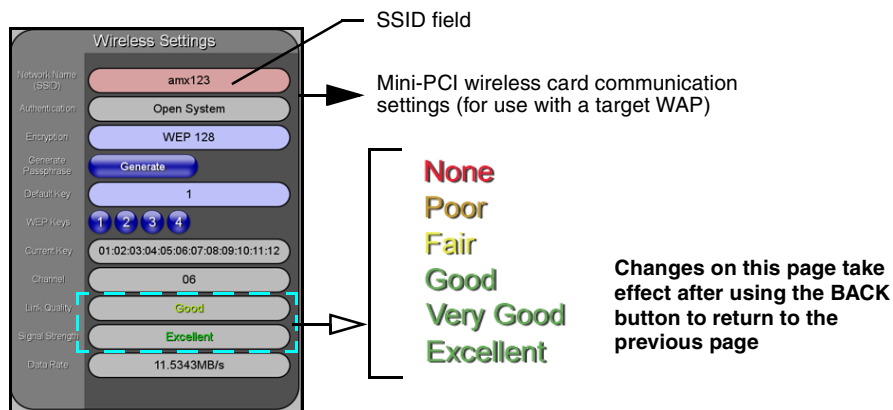

FIG. 81 Wireless Settings page (Wireless Settings section)
6. Locate the Wireless Settings section of the Wireless Settings page (FIG. 81).
9. Toggle the *Encryption* field (FIG. 81) until it reads **WEP64** or **WEP128**. *The 64/128 selection reflects the bit-level of encryption security. This WEP encryption level must match the encryption level being used on the WAP.*
13. Write down this Current Key string value for later entry into your WAP's *WEP Key* field (typically entered without colons) and into the communicating panel's *Current Key* field (FIG. 81).